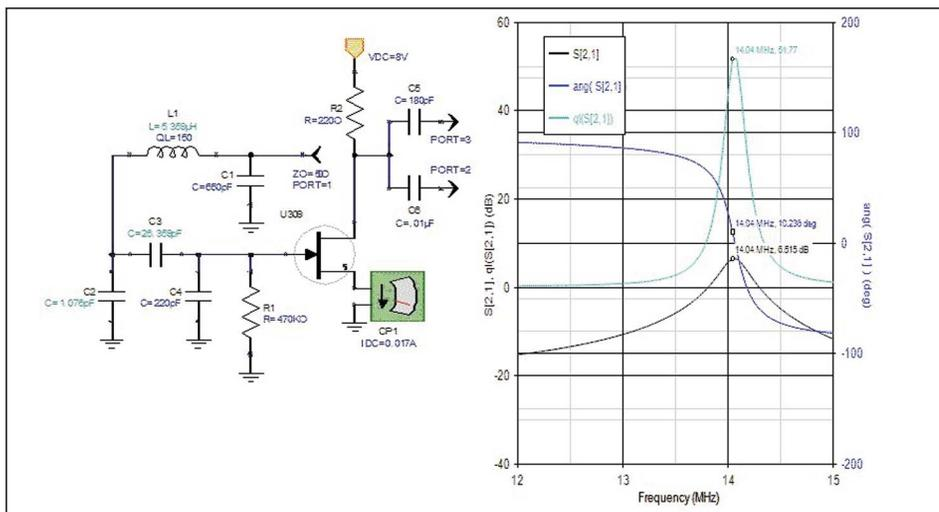

Figure 7—Resulting simulation with high L1 and C1 values.
Another successful simulation is shown in Figure 7, included to show the result of very high values of L1 (5.359 uH) and C1 (650 pF). Notice a steeper $\text{ang } S(2,1)$ curve and a much higher Qu value. Who would ever image that these resonator values would produce a 14 MHz oscillator! The simulation lowered the values of C2 and C3 needed to achieve oscillation at 14 MHz.
On the workbench, 6 turns were taken off L1 and the value of C2 was about 1.6 pF. To be within the simulation values, the tuning capacitor would have to be a single plate variable capacitor and would have a very wide tuning range. A 2 to 5 pF ceramic trimmer was used on the workbench to tune the Figure 7 oscillator.
6. The high L/C (Figure 7) version's high sensitivity to capacitor values made it very easy to find capacitors that caused a lot of drift. Using a slightly better NPO feedback capacitor made a slight improvement. However, a 2-5 pF ceramic trimmer was a huge negative coefficient drift offender. This version of the Vackar made it easy to improve drift of the other simulation and the original circuit.